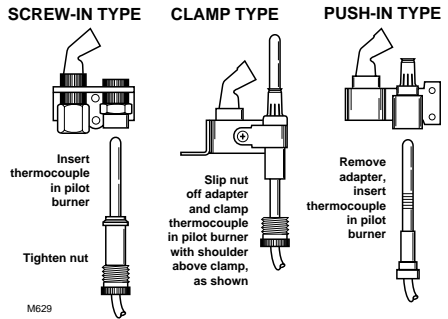

Fig. 1. Q340 Thermocouple installation.
3. Follow the applicable installation instructions in Fig. 1.
2. Follow the applicable instructions in Fig. 1.